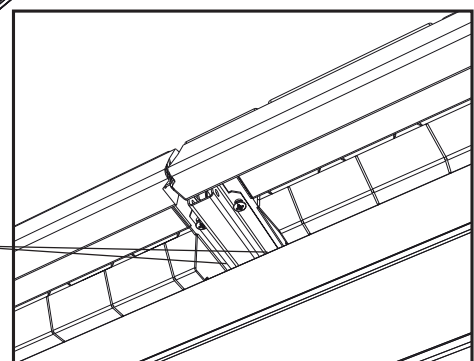

Fig. 2
- Fasten the Gutter Channels to the Roof Panels with **Screws (ADZ)** (Fig. 1). When finished, insert the **Foam Cubes (AJA)** between the Gutter Channels and Roof Panels (Fig. 2). To anchor your shed, do as you did with your existing shed or according to your original Owner's Manual. See the steps for **Anchoring the Shed** at the end of your original Owner's Manual.